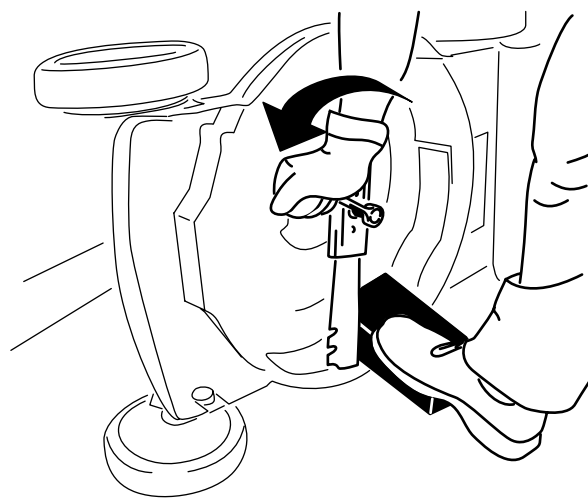

Figure 21
2. Use a block of wood to hold the blade steady (Figure 21).
3. Remove the blade bolt, bracket, and blade; save the bracket and blade bolt (Figure 21).